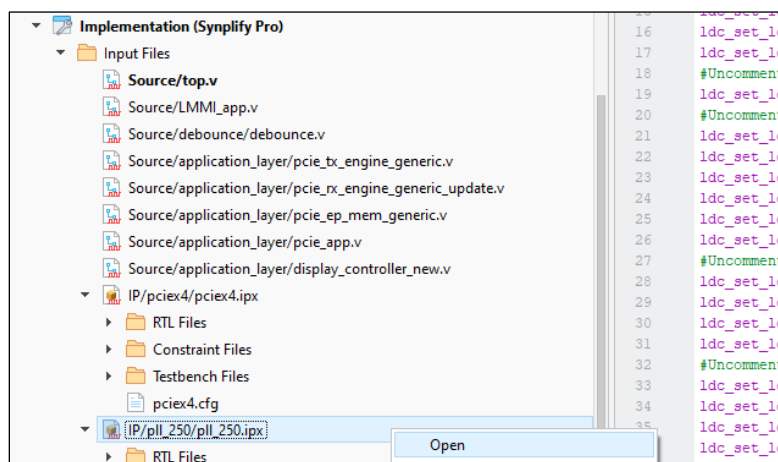

Figure 7.11. Open PLL IP
6. Click **Open** the PLL IP instance as shown in Figure 7.11.